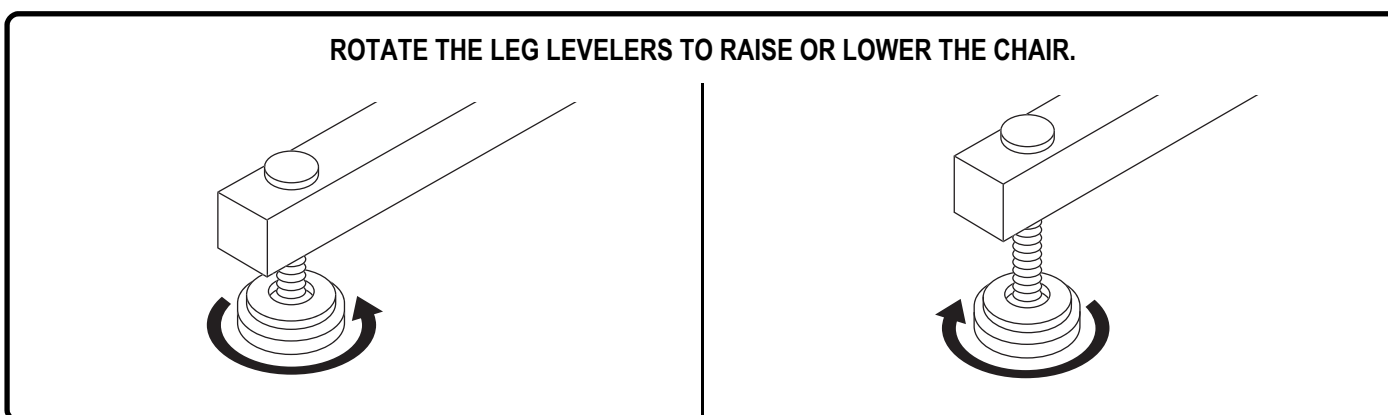

Figure 3.3 Leg Levelers
Leg Levelers: Manually rotate up or down in order to stabilize the chair before use (Fig. 3.3).
2. Adjust the leg levelers to stabilize the lift chair (Fig. 3.3).